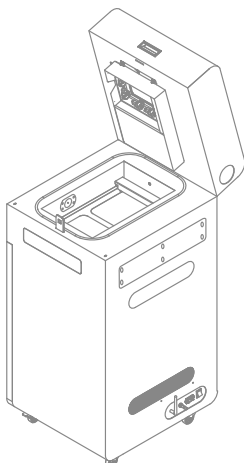

Fig. 13.76 Remove six screws from the access panel.
8. Using a 2.5 [mm] allen key, remove the six screws securing the access panel on the back side of the printer (fig. 13.76).